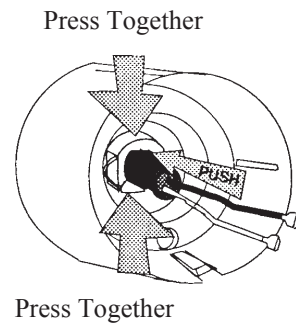

Figure 11.
3. Remove the strain relief and the snap-on cord cap from the cut section of cord. To remove the strain relief it is necessary to use a pair of strain relief pliers; if these are not available, then a pair of needle-nose pliers can be used. Compress the lower tab against the upper part of the strain relief from the inside of the cap while pushing the cord and the strain relief through the cap; see Figure 11.